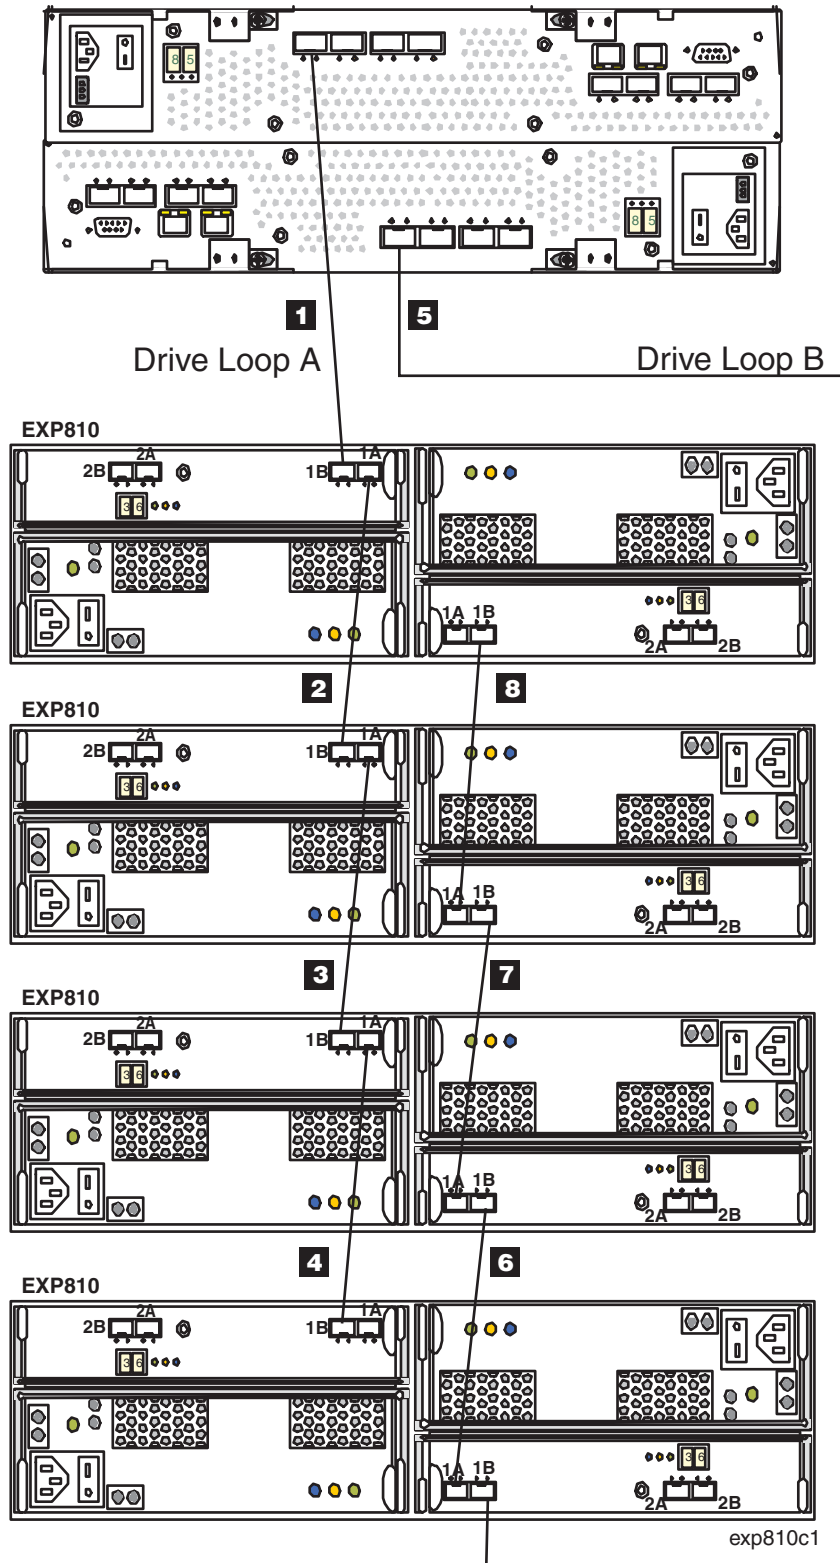

Figure 41. Correct EXP810 redundant drive loop configuration
- i. The controller drive ports of the DS4000 storage subsystem controllers must always be connected to the ports labeled 1B in both right and left ESMs of the EXP810s in the redundant drive channel/loop pair that is connected to the DS4000 storage subsystem. (Figure 41 on page 62 shows the location of the ports.)
Figure 41 on page 62 shows a redundant drive loop that you might create with a DS4800 Storage Subsystem and four EXP810s. The numbers provided in Figure 41 on page 62 show the order in which cables should be attached. Note that the controller port is connected to the port labeled 1B on both the right and left ESMs.
To create drive loop A (of the DS4800 redundant drive loop) shown in Figure 41, you would perform the following steps:
To create drive loop B (of the DS4800 redundant drive loop) shown in Figure 41 on page 62, you would perform the following steps: